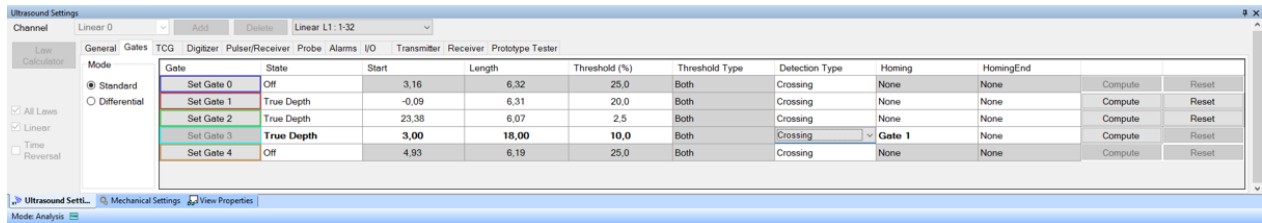

Figure 8: Configuring Homing gate parameters in the Gates page
- In Figure 8, the user requests the Homing Gate (Gate 3) to start 3,00 mm (in True Depth) after the position of the triggering signal in the reference gate (Gate 1)